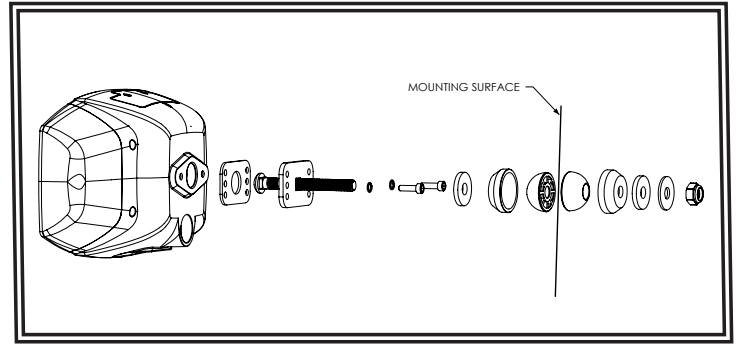

FIGURE 2
2. Secure the light head with the supplied hardware by using the M5 screws and lock washers as shown in Figures 2 or 3.